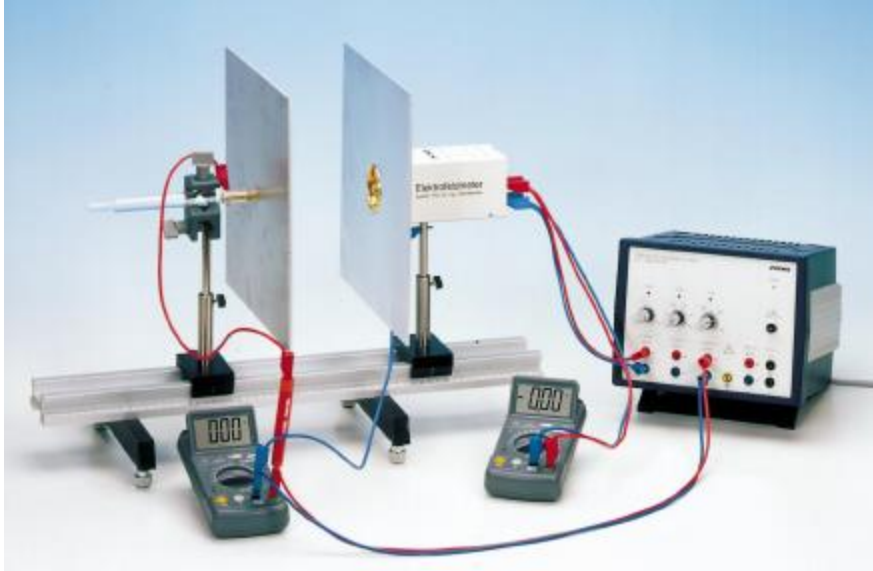

Figure 1.4. Experimental setup
1. The experimental set up is as shown in Fig.1.4. The electric field meter should first be zero-balanced with a voltage of 0 V.